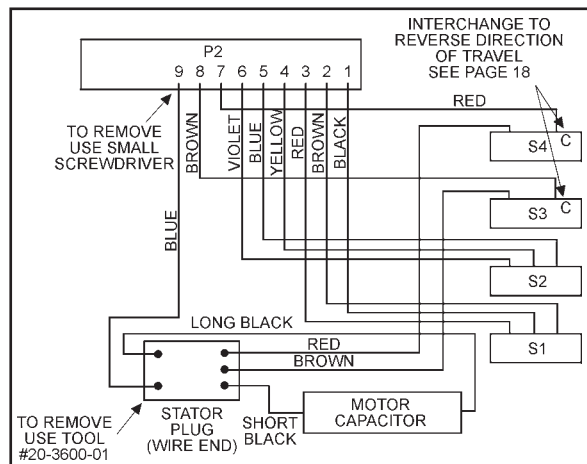

Figure 11
6. Remove the switch to be replaced and disconnect the wires. Before replacing the switch, reconnect the wires. Refer to Figure 11, for proper connections.
7. Cut the cable ties holding the motor capacitor to its mounts. Use wire removal tool, Beck part number 20-3600-01, to remove the two capacitor wires from the six position plug. Insert wires from replacement capacitor into the six position plug. Refer to Figure 11 for proper wire locations. Place capacitor on mounts and secure with two cable ties.